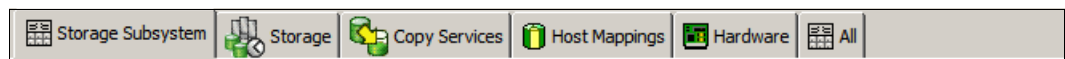

Figure 13-25 The tab bar of the Profile window with the Storage Subsystem tab selected
2. Select the tab for the information you want to view. By default, you open the **Storage Subsystem** tab. Select a specific component or click the **All** tab to show everything, as shown in Figure 13-25.